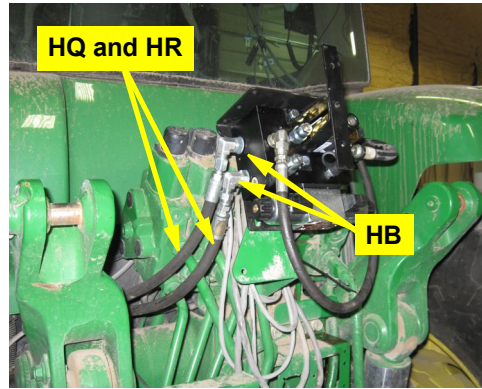

Figure 4c: Steering hoses connected to steering block A and B ports. (You will install the other hoses at step 7.)
- c. Connect hoses **HR** and **HQ** to the fittings **HB** in the A and B ports of the hydraulic steering block (Figure 4c).